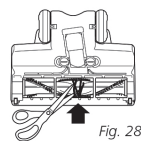

Fig. 28
- Remove any string, carpet fibers or hair that may be wrapped around the brushroll. (Fig. 28)